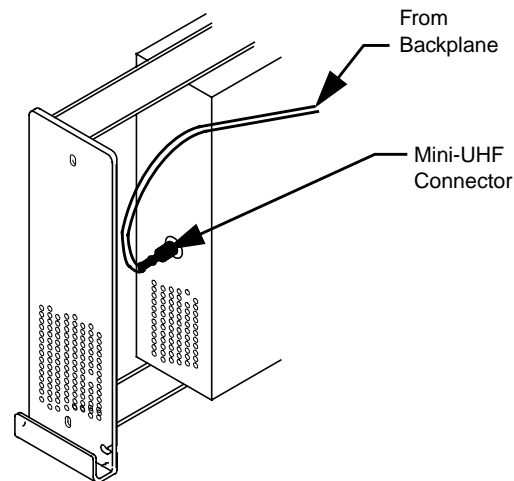

Figure E-4: Mini-UHF Cable in the GPS Receiver Module
5. Slide the faulty GPS Receiver module partially out of the cage. Disconnect the mini-UHF connector on the inside front surface of the module, behind the front panel (see Figure E-4).